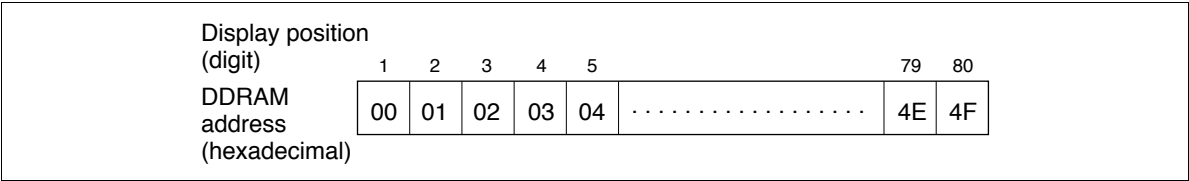

Figure 2 1-Line Display
- 1-line display ($N = 0$) (Figure 2)